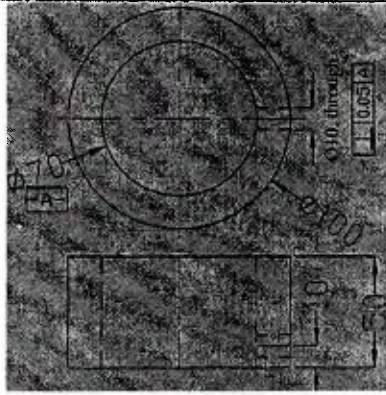

Figure No-01
A)	Component having a drilled hole shown in figure no. 01, Justify- what should be the locating surface (of workpiece), & type of Jig system can be used to drill hole in workpiece component?